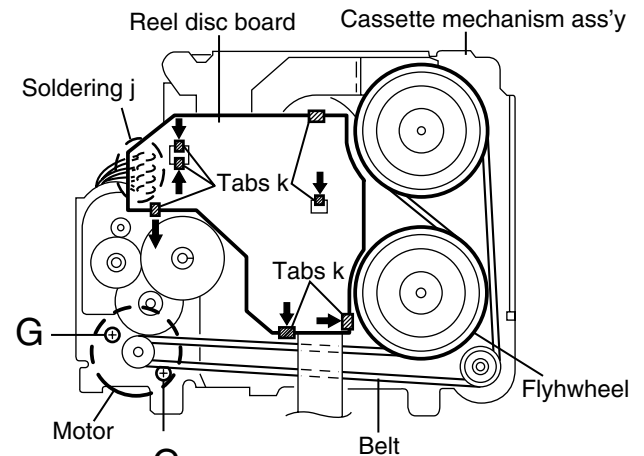

Fig.10
■ Removing the reel disc board (See Fig.10)
■ Removing the motor and the sub motor (See Fig.10 and 11)